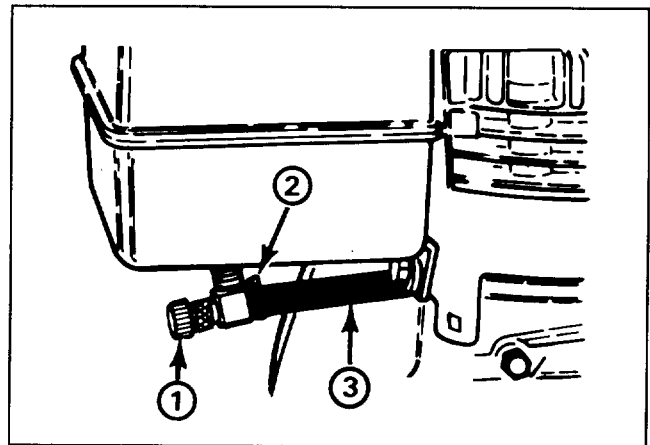

Figure 20
1. Close fuel shut-off valve located under engine (Fig. 20).
3. Loosen hose clamps securing fuel line to valve and slide line off valve (Fig. 20).